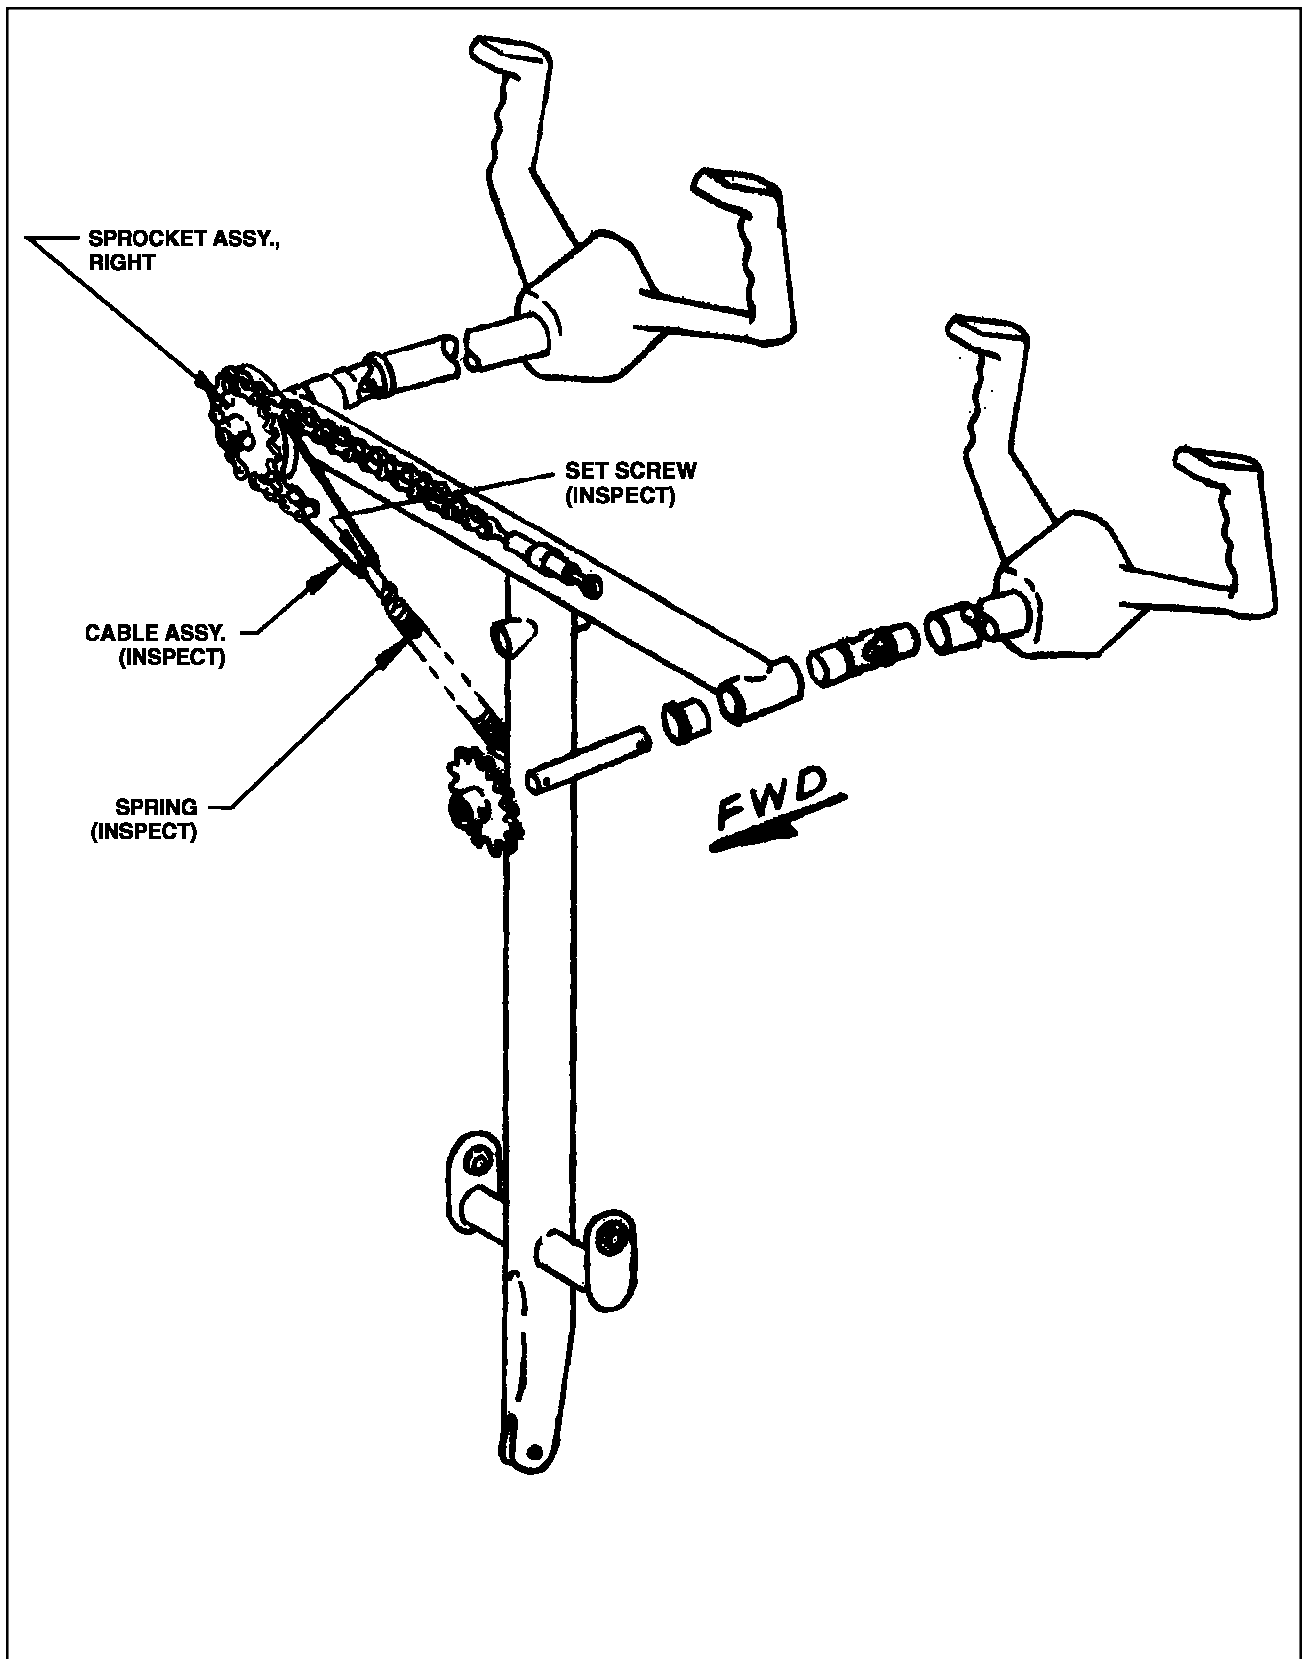

Figure 3-10. Aileron Centering Cable Inspection
(11) AILERON CENTERING CABLE INSPECTION. (Refer to Figure 3-10.)
**NOTE:** Refer to Figure 3-10 for identification of inspection areas.